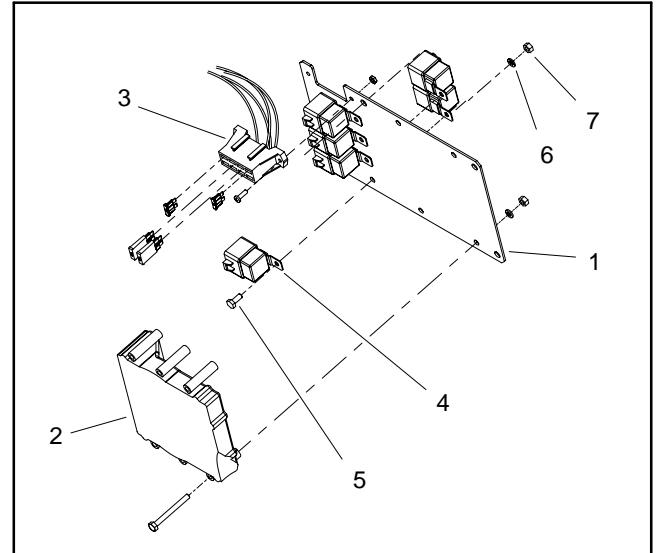

Figure 31
The Sonic Boom System uses six (6) identical relays to control the boom actuators and ultimately the boom height. Three (3) of the relays control the right actuator and the other three (3) relays control the left actuator. The electronic control unit (ECU) controls the operation of the relays. The relays are located on a mounting plate under the vehicle dash panel (Fig. 31) and can be identified by a label on the wire harness connector.